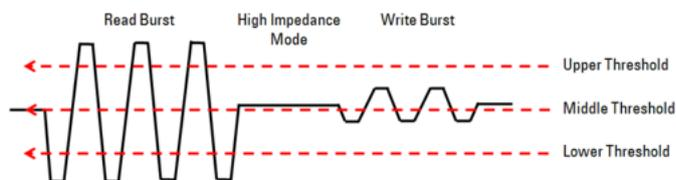

Figure 82 Signal with a non-ideal high impedance voltage amplitude
- 2 Different Amplitudes of Read and Write Bursts – In the signal shown in Figure 82, the amplitude of the Read burst is significantly higher than that of the Write burst. In this situation, the Compliance Test Application uses the TopBase Ratio mode to automatically determine the upper, middle and lower threshold levels according to the VTop and VBase measurements performed on the actual signal. With the calculated threshold levels, the application triggers on only the Read burst because the edge meets the threshold condition. However, it does not trigger on the Write burst. Therefore, when the application runs the Write cycle tests, it is unable to find the required Write signals. Eventually, the application performs invalid or erroneous measurements. Note that there may be signals where the amplitude of the Write burst is